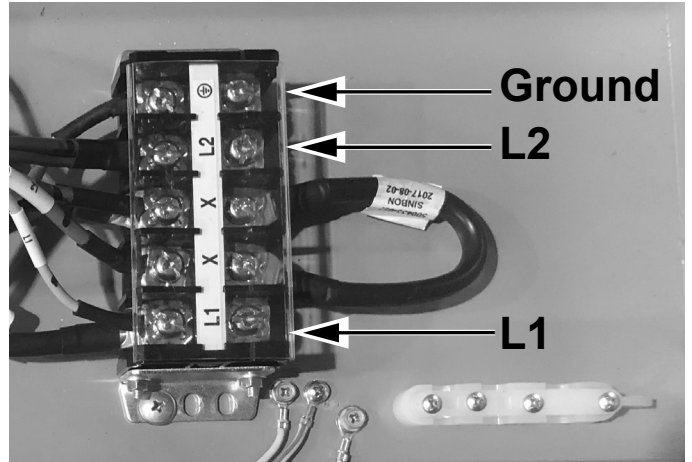

Figure 10. Terminal Block
5. Connect incoming hot wires from the power supply to the terminal block locations marked "L1" and "L2." See *Figure 10*.
6. Connect the ground wire from the power supply to the terminal block marked with the ground symbol. See *Figure 10*.